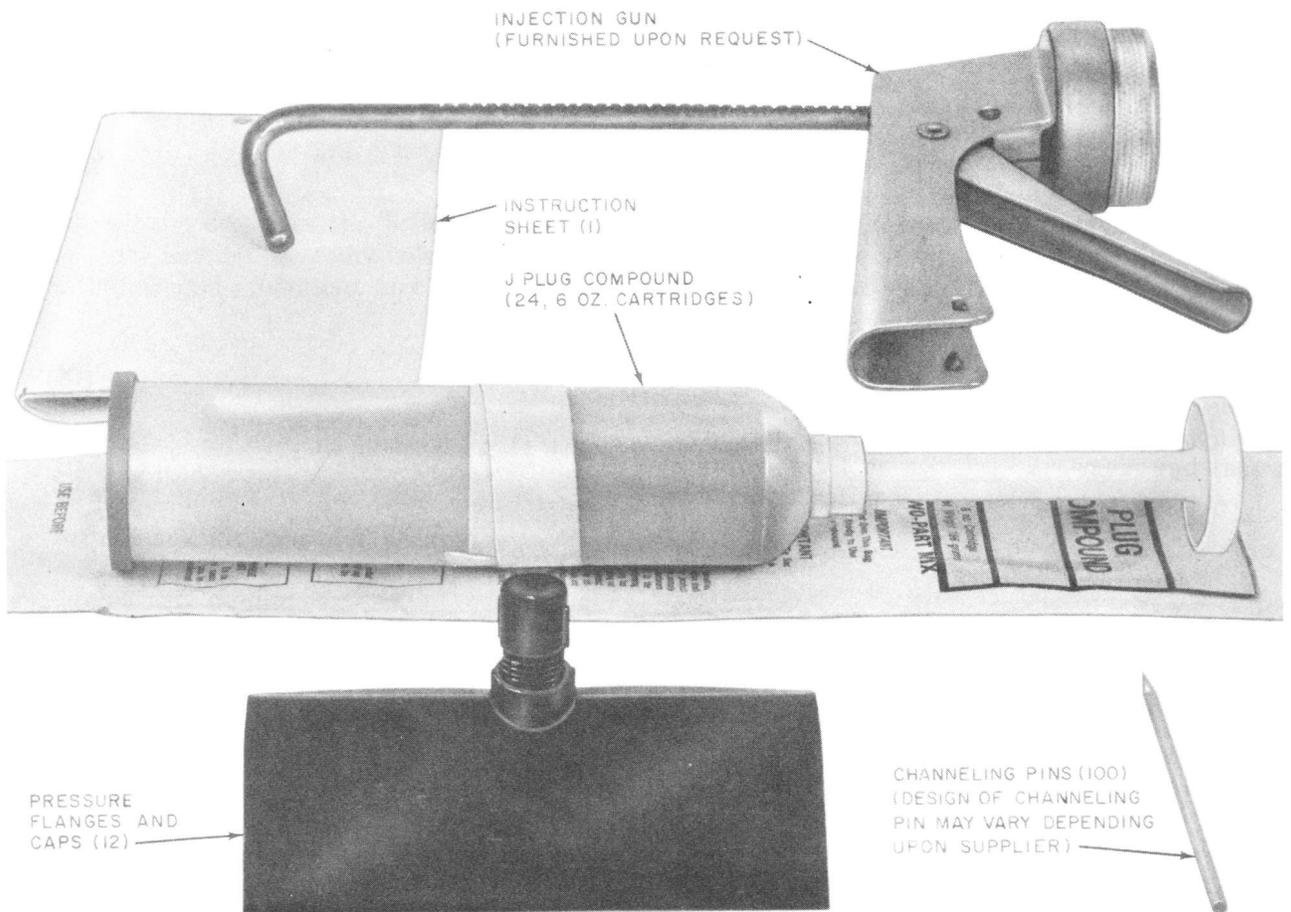

Fig. 1—J Plug Compound
**3.12** The J plug compound is packaged as a universal air core cable plugging system which includes most of the materials necessary to construct a pressure plug using the sheath injection method. The components included in this package are as follows (Fig. 1):